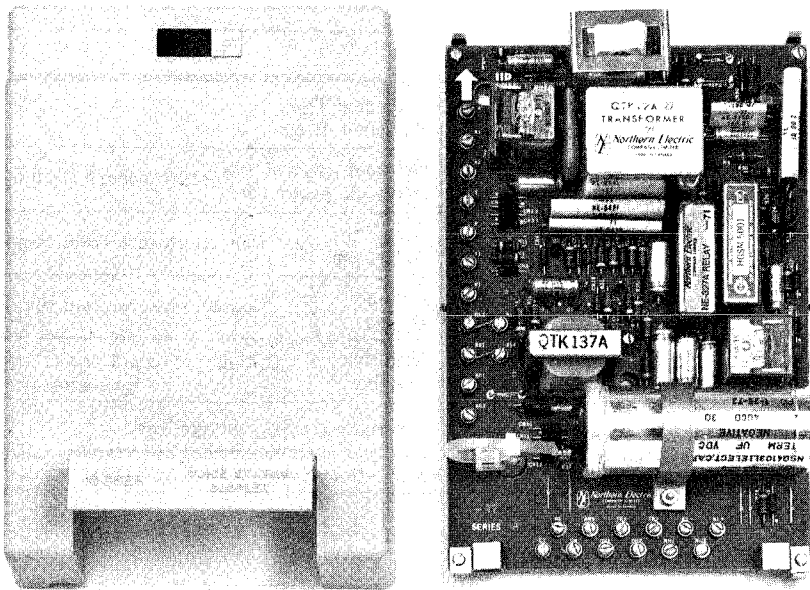

Fig. 2 — QCS2B Voice Station Coupler
**2.08** The coupler QCS2B (Fig. 2) is a wall mounted unit measuring 8 inches wide, 9 inches high and 2½ inches deep. The coupler weighs approximately 3 pounds and is enclosed in a plastic moulded box. Two key hole slots at the top and one key hole slot at the bottom are provided on the base for mounting the unit on a wall or other vertical surface.